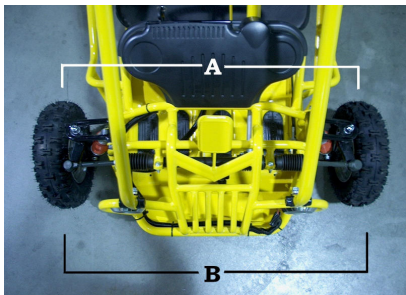

Fig. 6-1
- The front wheels should be “toe-in” from  $\frac{1}{8}$ ” to  $\frac{1}{4}$ ”. To check for alignment, measure distance A and B (Fig. 6-1) between the centerline of the wheels. The proper toe-in dimension “A” should be  $\frac{1}{8}$ ” to  $\frac{1}{4}$ ” greater than dimension “B”.